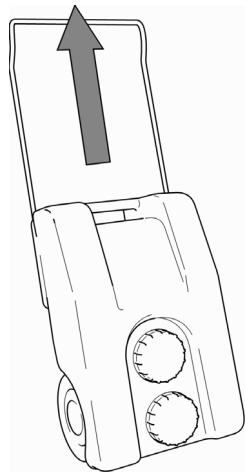

Fig. 5 Open handle and wheel to water supply. Remove blank cap and fill.
5. Insert plug into wall socket and close lid to lock plug in place (see fig. 5).